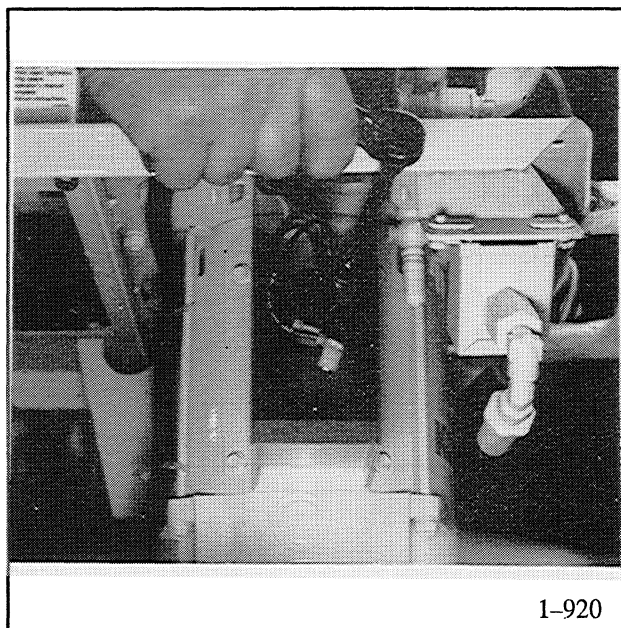

Figure 5-6. Disconnecting Ground Leads.
7. Disconnect ground leads from stator shell. (Figure 5-6).